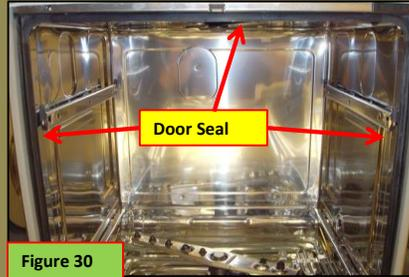

Figure 30
1. Open the washer door and remove the upper door seal; see Figure 30.